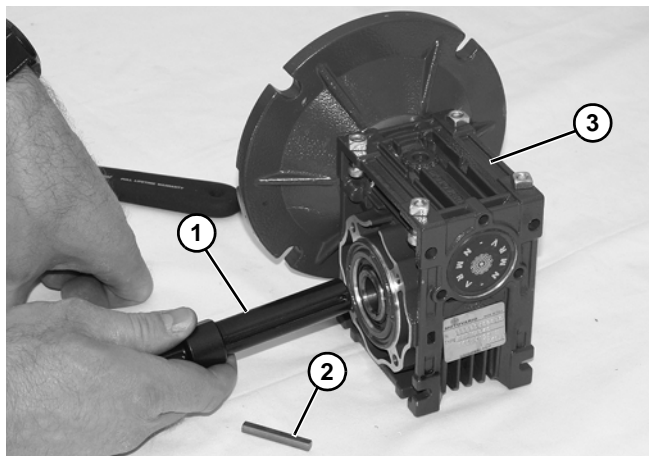

Figure 24
4. Remove driveshaft (Figure 24, item 1) and key (Figure 24, item 2).
5. Replace gear reducer (Figure 24, item 3).
7. Replace the original shaft components into new gear reducer (Figure 24).